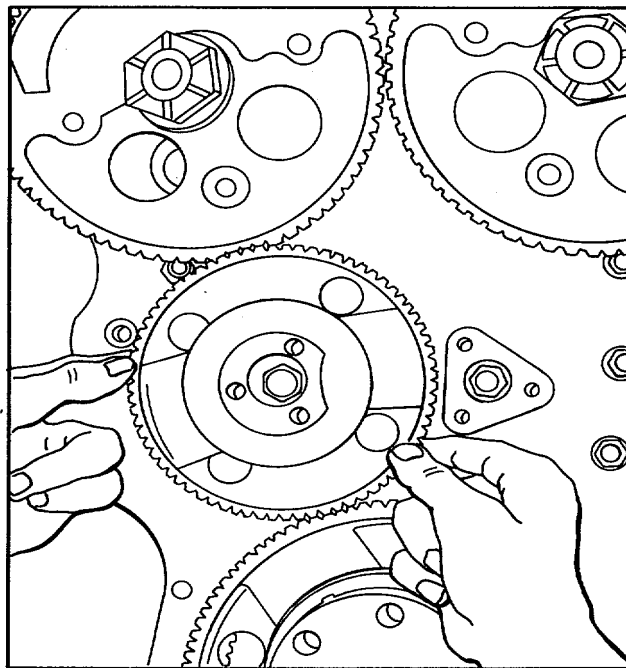

Figure 2. Installing Idler Gear
7. With these timing marks in alignment, install the idler gear as shown in Fig. 2.